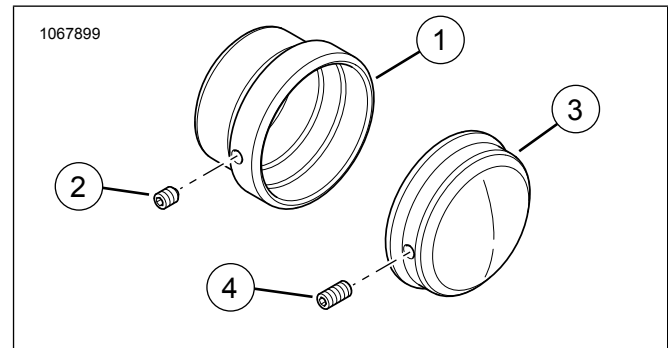

Figure 1. Service Parts: Brass Rear Axle Cover Kit
See Figure 1 and Table 1.
The short set screw (2) goes in the larger axle nut cover (1). The long set screw (4) goes in the shallower axle side cover. See Figure 1